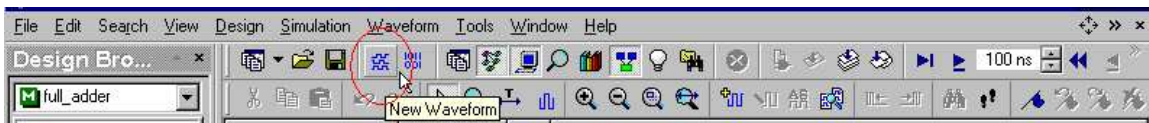

Figure 31
6. Click the New Waveform icon in the Standard toolbar (Figure 31).